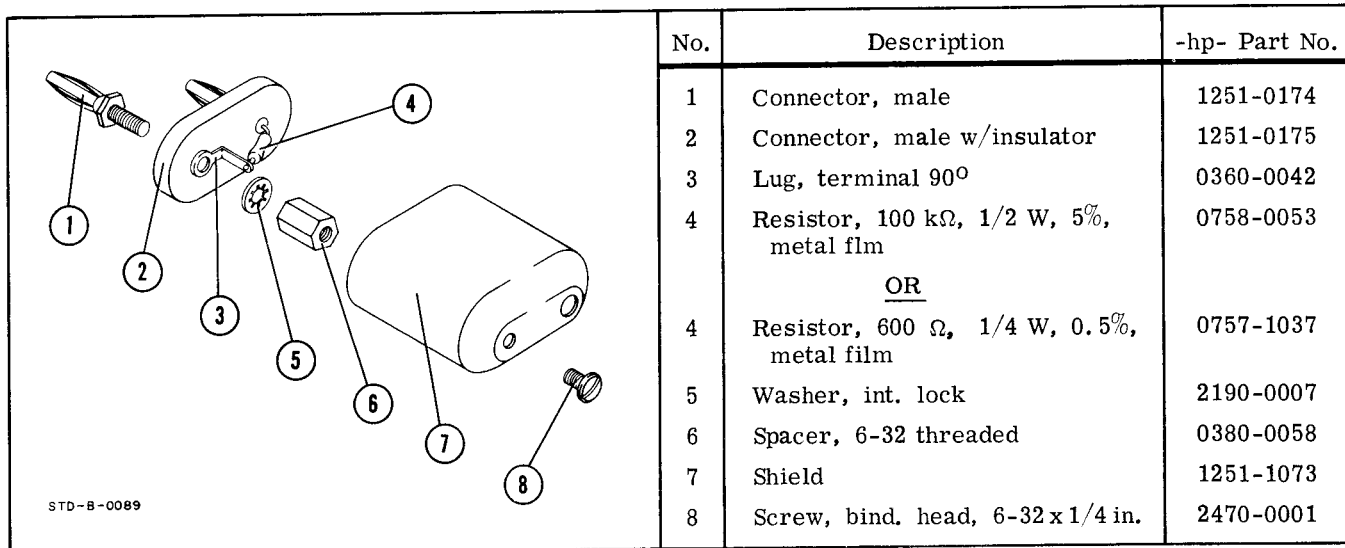

Figure 5-7. Shielded Load Assembly
- a. Connect a shielded 600Ω load across 333A/334A INPUT terminals. (See Figure 5-7 for details on constructing shielded load). Be sure that shorting bar is connected between chassis ground and circuit ground on INPUT terminals.
- d. Remove 600Ω load. Connect a shielded $100\text{k}\Omega$ load across INPUT terminals. (See Figure 5-7 for details on constructing shielded load).